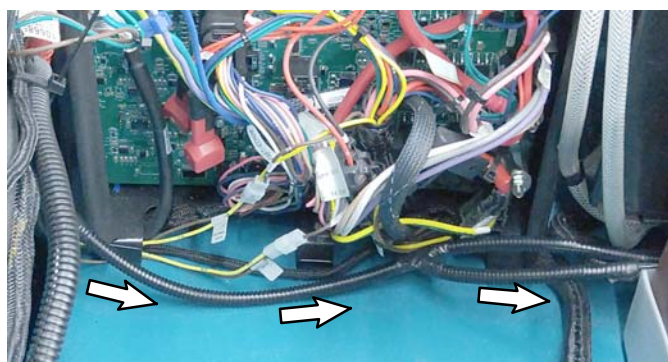

FIG. 30
16. Continue routing the new telemetry harness below the circuit board area (FIG. 30).